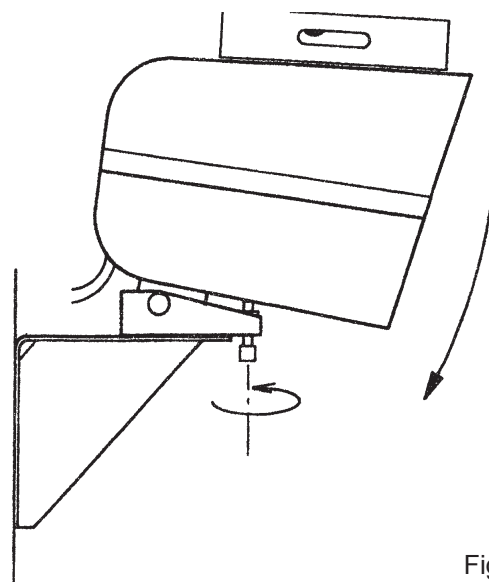

Fig. 4
- Unscrew the range screw 3 turns causing the head to tilt downwards. (See Fig. 4&9)